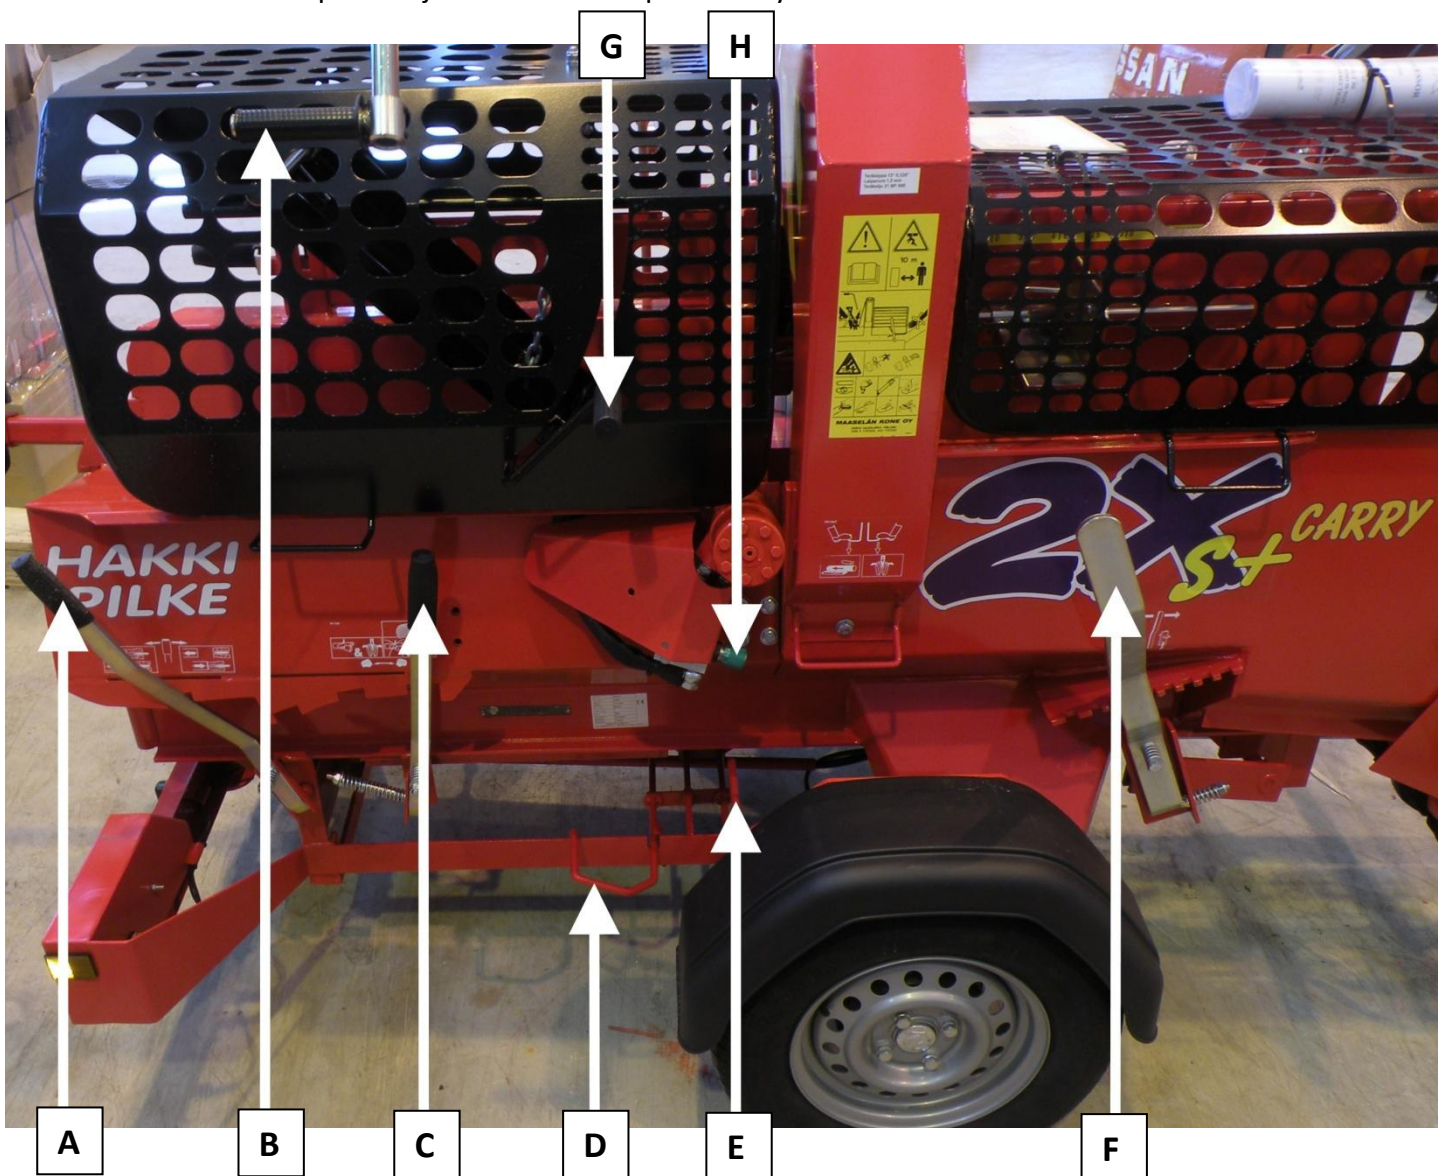

Figure 24.
The control devices of the Hakki Pilke 2XS+ Carry log splitter are presented in Figure 24. The names and functions of the control devices are as follows:
1. Place the guard lock lever C (in Figure 24) into the STOP position, and open the splitting blade guard.
Adjust the splitting blade to the desired height with lever F (in Figure 24). The blade is in the highest position when the lever is all the way to the left and in the lowest position when the lever is all the way to the right.
The belt of the Hakki Pilke 2XS+ Carry log splitter's output conveyor is driven by a hydraulic motor, which means that the belt speed can be adjusted with the adjuster knob H (in Figure 24). To increase belt speed, screw the adjuster open (anticlockwise). To decrease belt speed, screw the adjuster closed (clockwise). If necessary, you can also stop the belt entirely by closing the adjuster G all the way.
To reverse the input conveyor roller, press the reverse pedal D in Figure 24.
The wood press keeps the logs in place when they are being sawed. If necessary, aid the wood press by pressing down lever G (Figure 24), which helps to keep the log firmly in place during sawing.
7. In extremely cold weather, repeat the cutting motion with the activation lever F (in Figure 24) to warm up the oil until the motion is performed at normal speed.
8. Activate the cutting motion and stop it by turning the guard lock lever C (in Figure 24) to the STOP position. Note! The cutting flange must be in the raised position.
10. Test run the input conveyor's input motion with the operating lever B and the return motion with the reverse pedal D (in Figure 24).
11. Ensure that the path of the wood press is normal by using the wood press handle G as seen in Figure 24.
The input conveyor feeds the wood to be processed into the splitter. To drive a log into the machine, use the lever B in Figure 24 of Section 4. To reverse the feed, use the reverse pedal D.
- Lift the lever B (in Figure 24) to start feeding the log into the machine. Continue until the log hits the measurement plate, at which point the input motion must be stopped.
Lower the guard, place the guard lock lever C to the RUN position and re-activate the splitting process with the activation pedal F (in Figure 24).